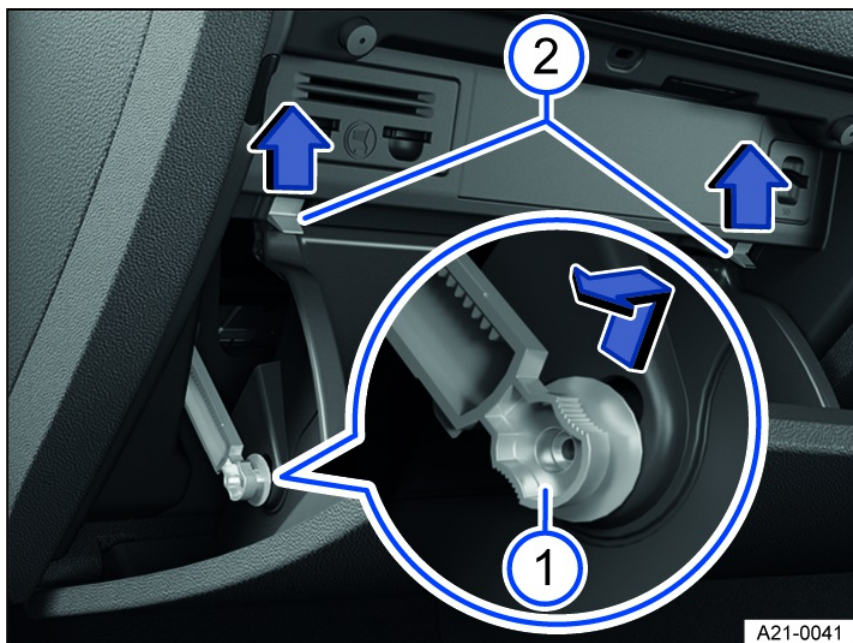

Fig. 189 On the passenger's side: Fuse box cover in the instrument panel (right-hand drive vehicles).
2. Push the damper element in the direction of the arrow and into the opening in the bracket, before pulling it out sideways *fig. 189* ①.
3. Push the catches up in the direction of the arrow while at the same time opening the storage compartment further *fig. 189* ②.
2. Fit the damper element into the opening in the bracket and push it in the opposite direction to the arrow *fig. 189* ① until you hear it click into place.
3. Push the storage compartment carefully forwards past the resistance of the stop pin *fig. 189* ②.